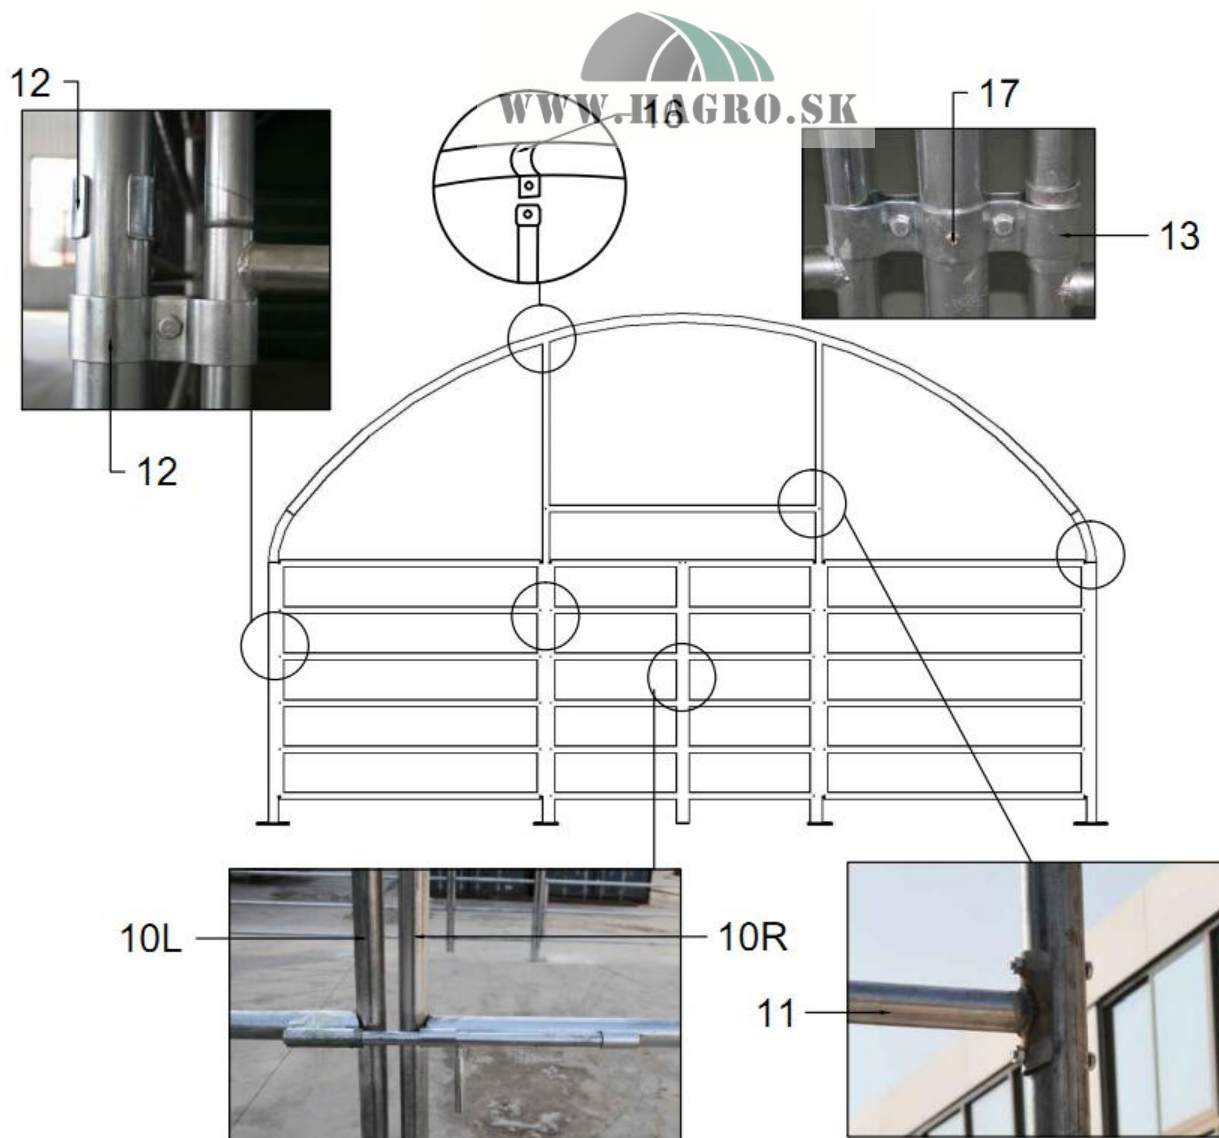
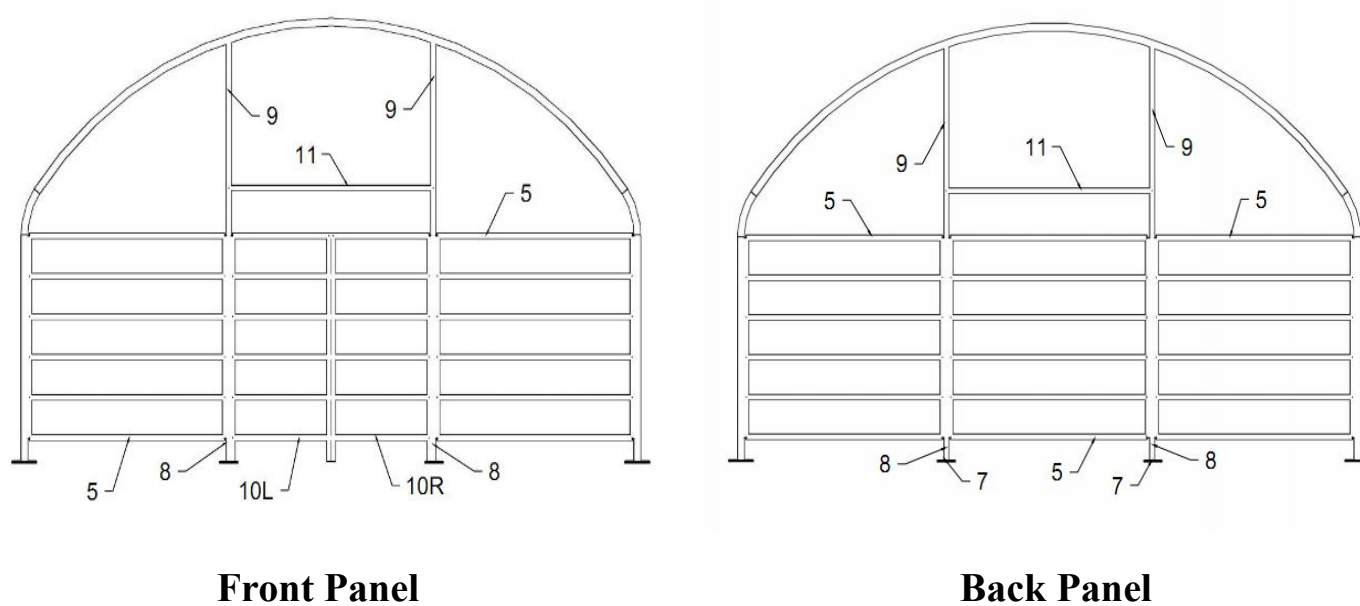

Figure 5
Figure 6
6. Install the front and back panel according to Figure 5 and Figure 6.